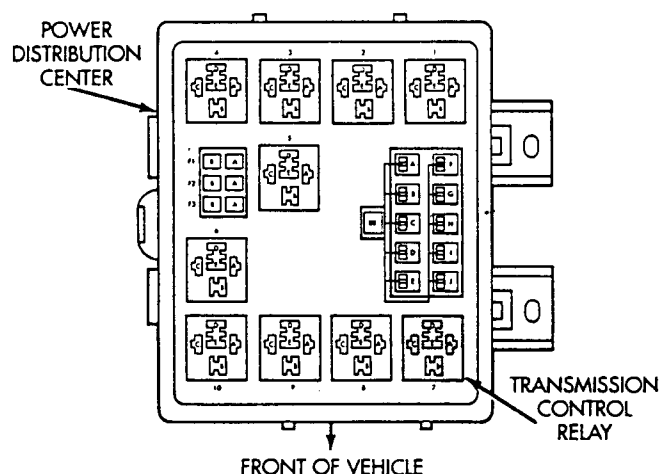

Fig. 4 Transmission Control Relay Location
- (1) Open hood and locate power distribution center in the engine compartment.
- (2) Remove power distribution center plastic cover.
- (3) Pull relay out of power distribution center (Fig. 4).